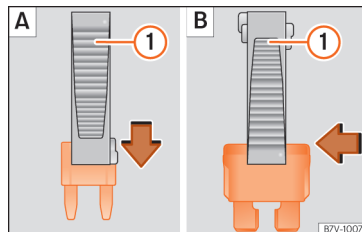

Fig. 61 Removing or fitting a fuse
- »» Fig. 61 [A].
- *Large fuses:* move the pincer sideways over the fuse »» Fig. 61 [B].